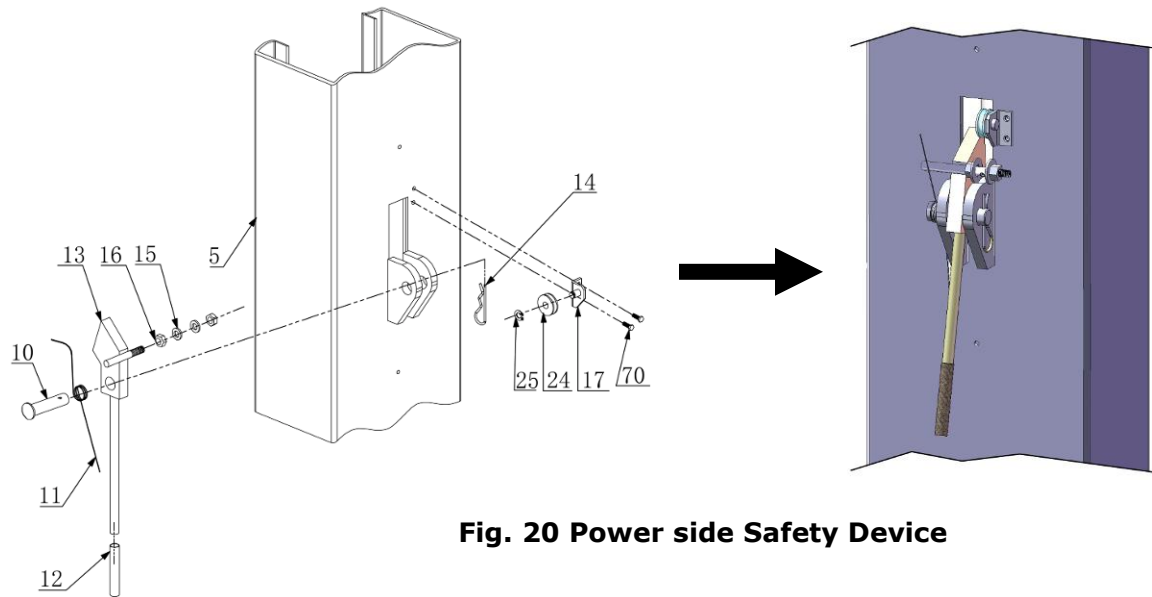
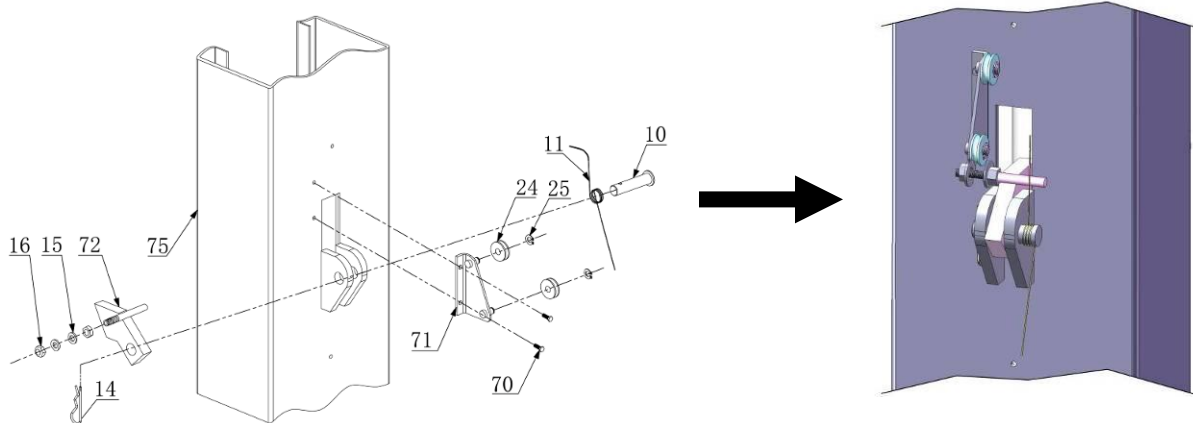

Fig. 20 Power side Safety Device
Fig. 21 Off side Safety Device
I. Install Safety Device (See Fig. 20 & Fig. 21).